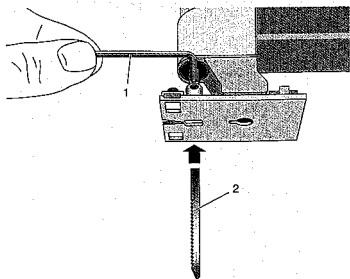

Fig. 2
1. Loosen clamp screw using the Allen key 1 provided (Fig. 2).
2. Insert saw blade (2) into slot in the saw blade mount and re-tighten clamp screw.